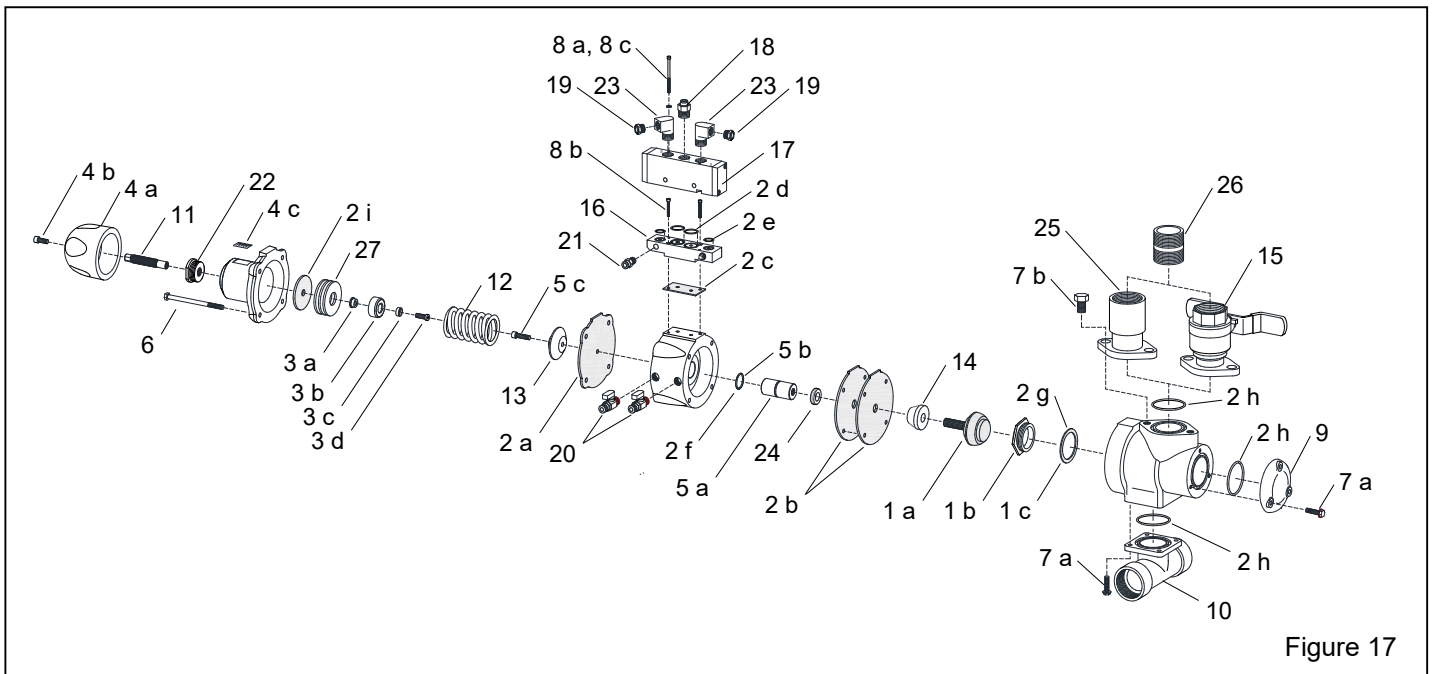

Figure 17
**6.2 GritWizard Abrasive Metering Valve – Figure 17